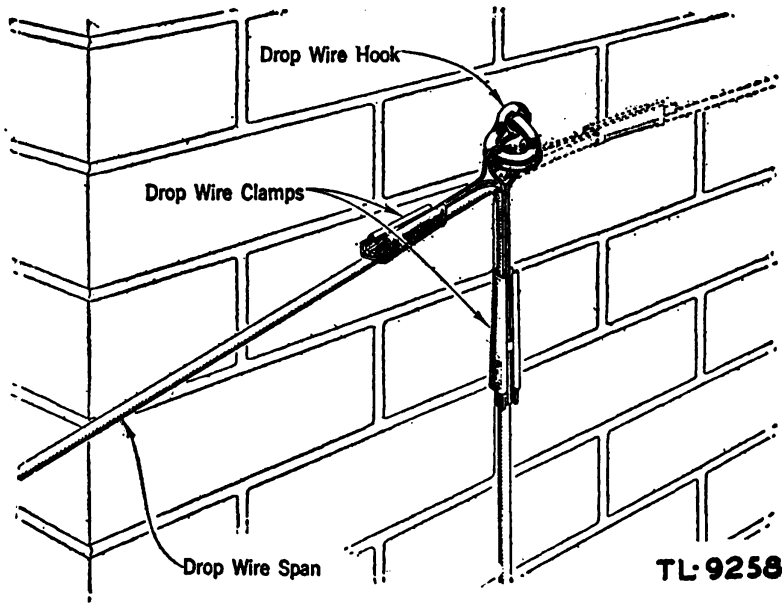

Figure 65. Drop wire span attached to building.
(1) Locate the first attachment so that the drop will have necessary clearance above roadways and footways.
(2) Locate first attachments so that the drop will clear electric light, power, and trolley wires. (See table VII.)
(3) Separate drop wires requiring station protection from inflammable or conducting materials.
b. **FIRST ATTACHMENTS ON BUILDINGS.** (1) When the original installation is one drop attached to masonry or brick veneer, use a drop wire clamp to support the pole-to-building span; use another drop wire clamp to support the building run. (See fig. 65.)